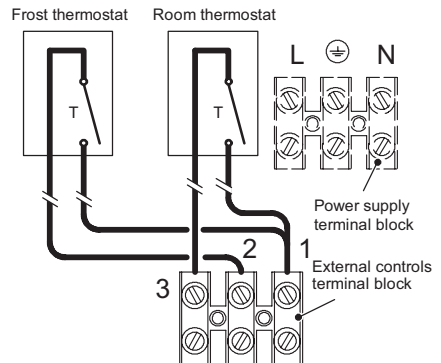

Fig. 6.19
- Connect the frost thermostat between terminals 1 and 2 as shown in Fig. 6.19. **Do not connect live wires to terminals to which the room thermostat must be connected.**